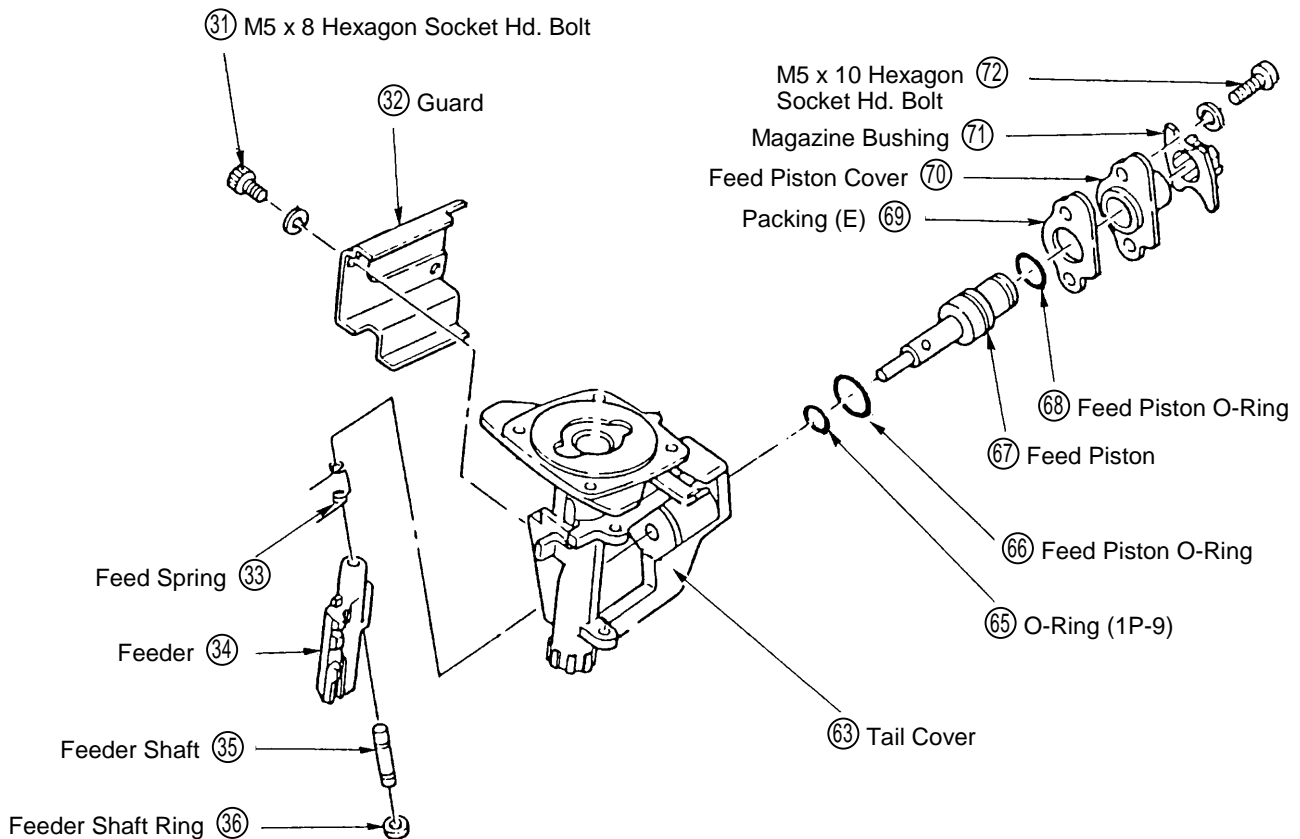

Fig. 17
- Prior to reassembly, thoroughly remove tar, dirt and other foreign matter from the latch groove on the Nail Guide ⑥4.
- When reassembling the Main Stopper Spring ⑧3 and Sub Stopper Spring ⑧2, carefully ensure that they are properly inserted into the holes on the Main Nail Stopper ⑧0 and Nail Stopper ⑧1.
- On completion of reassembly, push up the Main Nail Stopper ⑧0 and Nail Stopper ⑧1 by hand, and confirm that they return smoothly.
(2) Feed Piston ⑥7 Feeder ③4 and related parts: (Refer to Fig. 17)